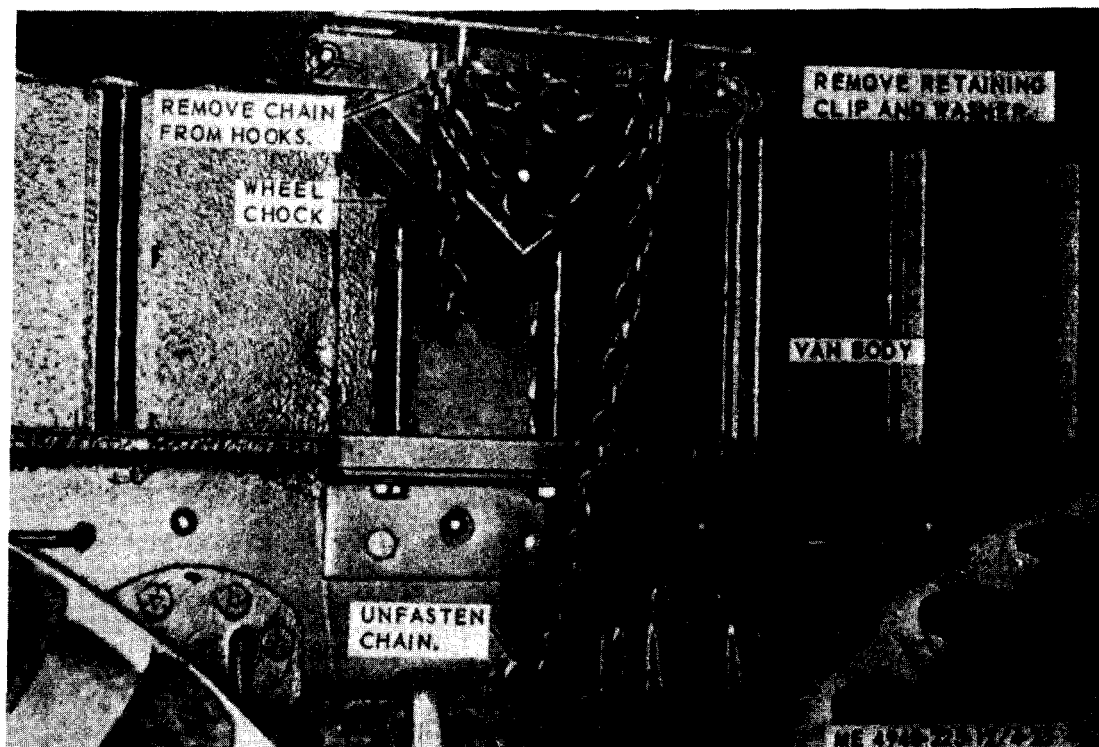

Figure 4-25. Wheel chocks, removal and installation.
a. Removal. Remove the wheel chocks as illustrated in figure 4-25.
(1) Clean parts with cleaning solvent and dry thoroughly.
(2) Inspect for rot, rust, cracks, missing hardware and other defects. Replace missing parts and defective parts as necessary.
c. Installation. Install the wheel chocks as illustrated in figure 4-25.